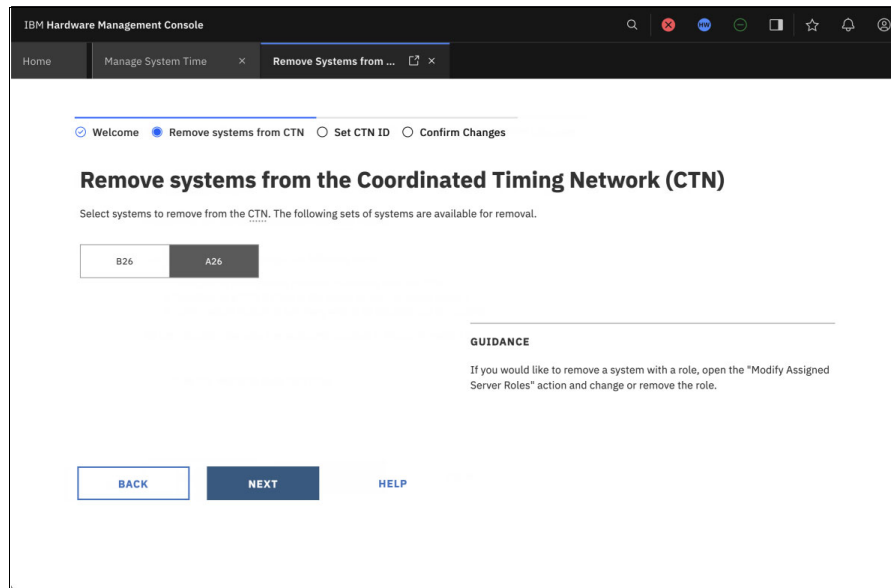

Figure 3-37 Server selection
2. Select the servers to be removed from the CTN as shown in Figure 3-37 on page 59.